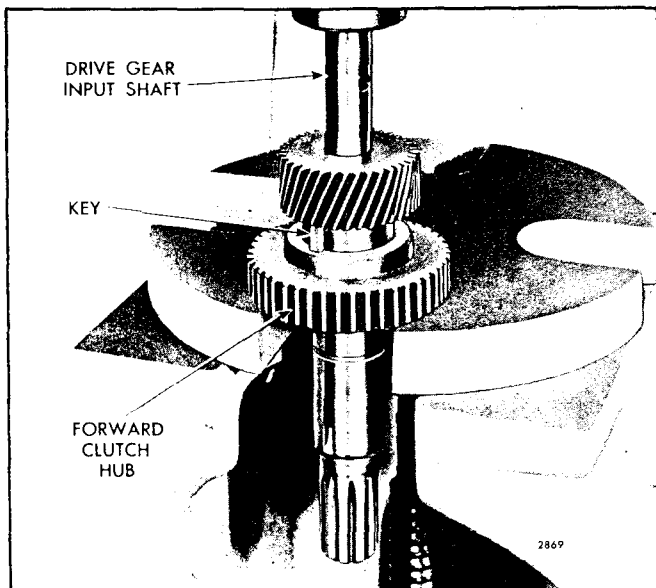

Fig. 52 - Installing Forward Clutch Hub on Drive Gear (Input) Shaft
- d. Place the forward clutch hub and drive gear shaft on the bed of an arbor press, with the short end of the drive gear shaft under the ram of press as shown in Fig. 52. Then press the drive gear shaft straight into the forward clutch hub and tight against the drive gear.